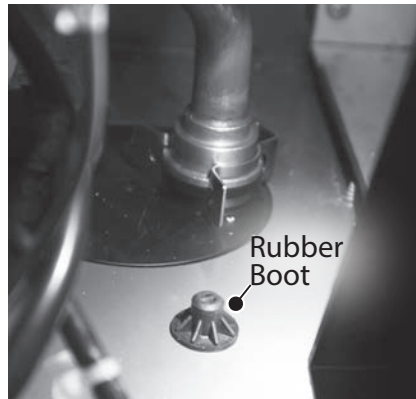

Figure 94 - Verify rubber boot placement
- 23** Before installing new gas valve to water heater, verify rubber boot is properly inserted into bottom of water heater cabinet as shown in Figure 94.